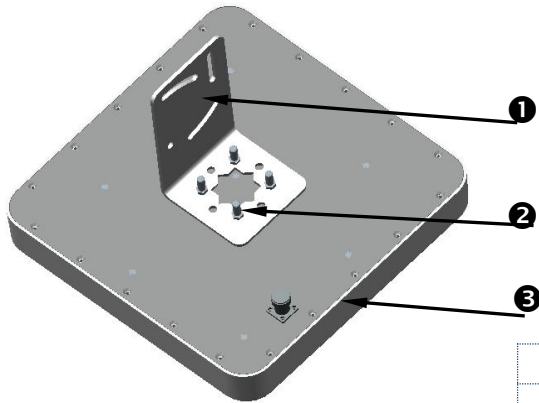

Figure 3. Horizontal mounting step 1
①	L board (Bracket)
②	M6 screw, elastic washer and plain washer
③	FSC-RA01CR antenna
Step 1: Use M6 screw, elastic washer and plain washer, to fix the L board on the antenna, please see Figure 3.